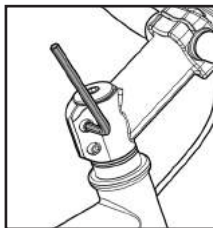
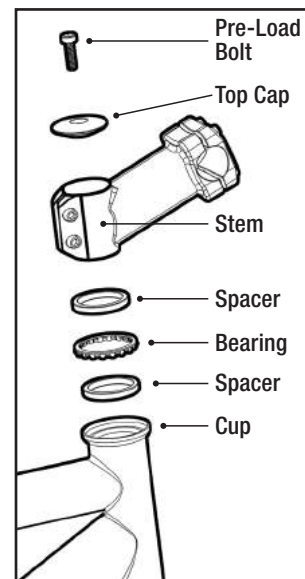

Figure 20
Figure 22
If your bicycle comes with a threadless stem (see Figure 20), we must first remove the headset in order to install. Use (C) a 4, 5, or 6 mm Allen wrench to remove the pre-load bolt, cap and cardboard spacer from the headset. Discard the cardboard spacer (see Figure 22).